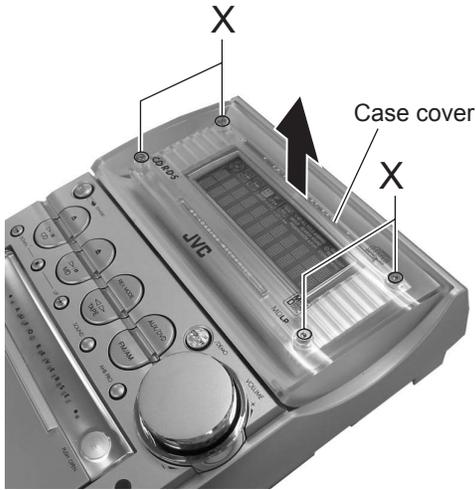

Fig.45
**(See Fig.45 to 50.)**
- (1) Remove the four screws **X** on the front side of the front panel that attach the case cover.
- (2) Pull out the FL panel from the bosses of the four joint "n" on the FL display cover.
- (3) Remove the four screws **Y** that attach the FL display cover. Remove the card wire from the connector CN671 and CN 672 on the FL connect board inside the FL display cover.